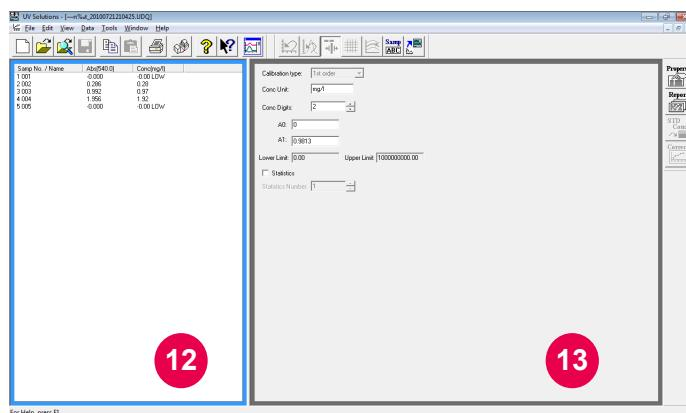

Fig. 1-51
- For preparing a calibration curve via factor input and then measuring a sample, a window as in Fig. 1-51 will appear.